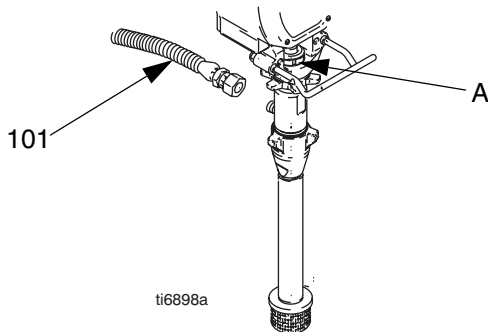

FIG. 16
1. Flush pump (17).
3. FIG. 16. Cycle pump with piston rod (A) in its lowest position.
4. FIG. 16. Remove suction tube (101) and hose.